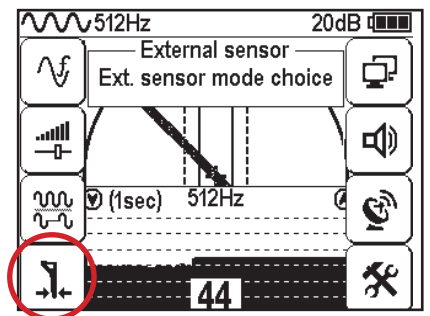

Fig. 10.5
Alternately putting on «Inductive clamps» or applying a attachable frame to the cables bundle, find «isolated» cable by the higher level of the signal (Fig. 10.5).
**In the example (fig. 10.5) it is possible to compare values only with the amplification 42 dB. The maximum of them is the value under the number 5.**
The survey shall be performed by two operators, the one operator has the measuring electrode, and the second one has the measuring electrode and receiver (fig. 10.5). Based on the receiver indications, you can locate the damaged cable (by methods described in the application 2 p. 1-2).